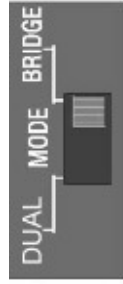

Figure 2.8 Dual/Bridge Mode Switch
Each output channel can be independently configured to drive either (1) 4/8-ohm loudspeakers, or (2) step-down transformers in a distributed “constant voltage” system. The amplifier can be configured for Dual or Bridge modes. Various combinations of these modes are possible. The DV 1.5 amplifier can be configured for either Dual channel or Bridge (single mono channel) modes of operation. To switch your amplifier accordingly, set the recessed “Dual/Bridge” switch to the desired setting as shown in Figure 2.8.